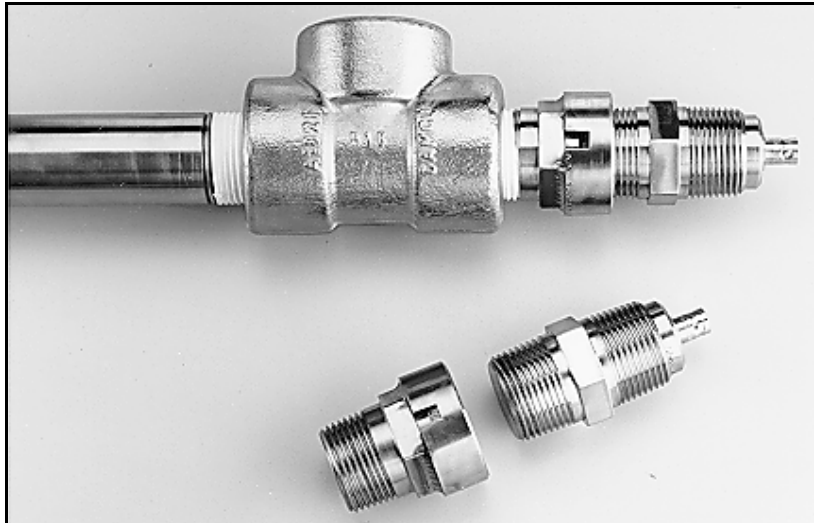
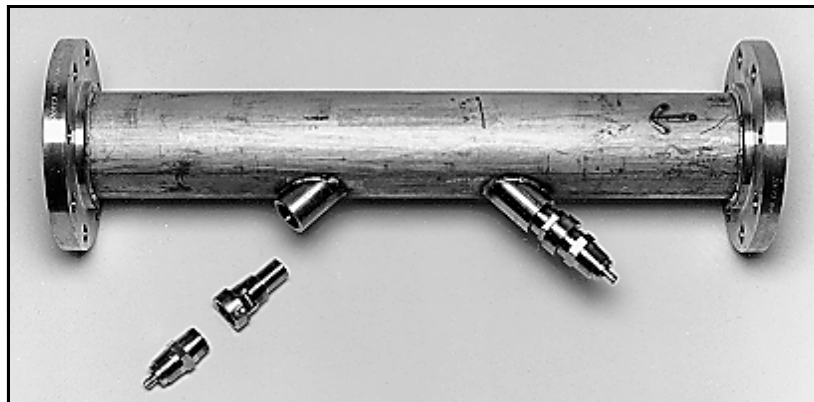

Figure 19: Threaded PanAdapta Plug and Transducer in an Axial Offset Flowcell Installation
Figure 20: Threaded PanAdapta Plug and Transducer in a Tilted Diameter Flowcell Installation
1. Apply a thread sealant, such as PTFE tape, on the PanAdapta plug threads. Then, screw the plug into the flowcell transducer port (see Figure 19 and Figure 20 below) using the appropriate torque.
**Note:** See Figure 19 and Figure 20 for two examples of threaded PanAdapta plugs and transducers.